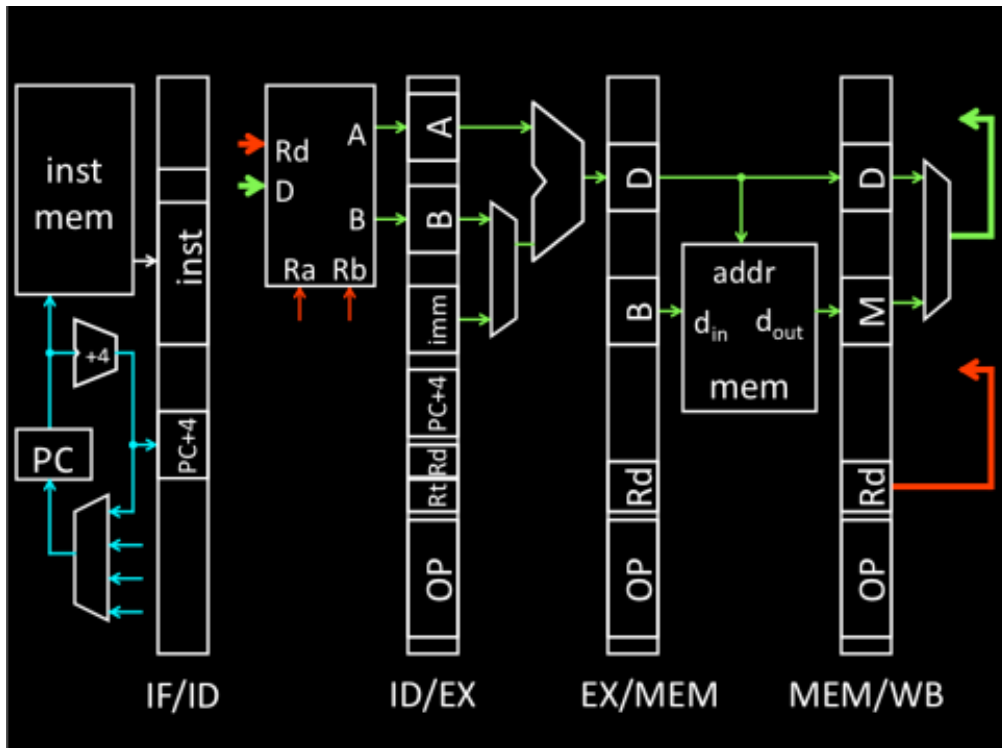
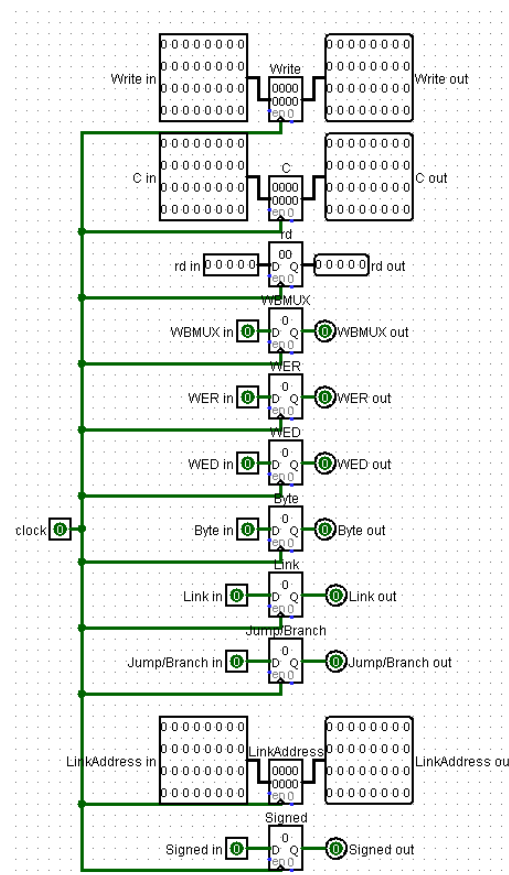

Figure 1: Pipeline
Figure 2: Execute-Memory Isolator
1. **Pipeline Structure:** The implementation of a pipeline (Figure 1) requires the use of a clock as well as several registers to move data between different sections of the pipeline. We will refer to these as "Isolators" (Figure 2), as they isolate the various stages. Pipelining will be further explained in **Section 2.1**.